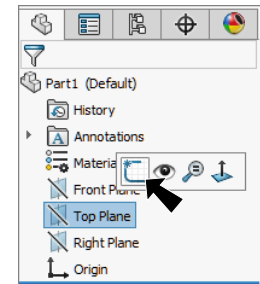
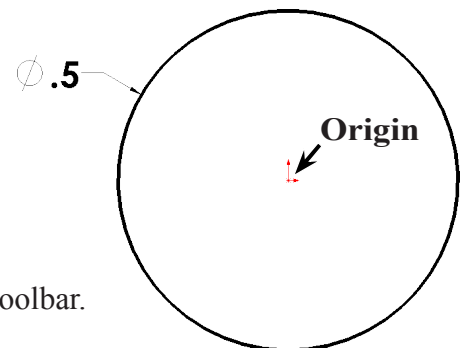

Fig. 1
Fig. 2
Step 2. Click **Top Plane**  in the Feature Manager and click **Sketch**  on the context toolbar, **Fig. 1**.
Step 3. Click **Circle**  (S) on the Sketch toolbar.
Step 4. Sketch **circle** starting at the Origin , **Fig. 2**.
Step 5. Click **Smart Dimension**  (S) on the Sketch toolbar.
Step 6. Dimension diameter **.5**, **Fig. 2**.